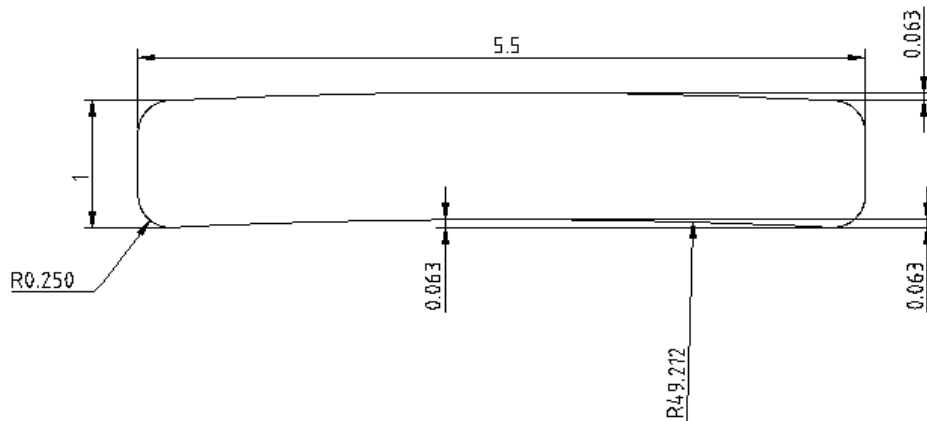

FIGURE 1 – VEKADECK™ DIMENSIONS
**3.2** Profiles - *VEKAdeck™ Decking Planks* have a solid cross-section with nominal dimensions of 1 inch thick by 5-1/2 inches wide. See Figure 1.